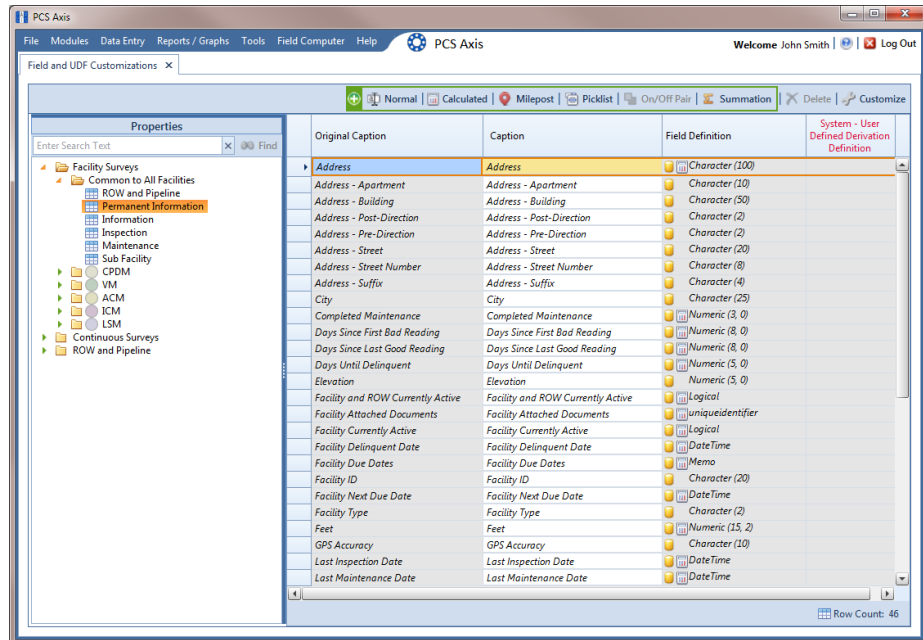

Figure 3-61. Field and UDF Customizations
- 3 Double-click **Facility Surveys > Common to All Facilities** in the *Properties* panel. Then click **Permanent Information** to display a grid with fields and property settings common to all facilities (Figure 3-61).
- 2 Double-click **Facility Surveys > Common to All Facilities** in the *Properties* panel. Then click **Permanent Information** to display a grid with fields and property settings common to all facilities (Figure 3-61, page 113).